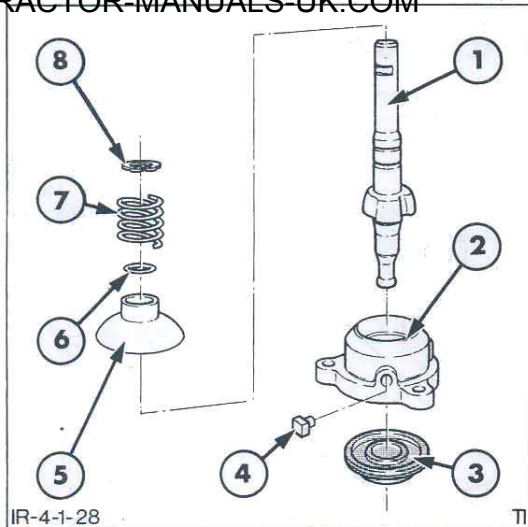

Figure 28
3. Remove the pin and rubber shield from the lever support, Figure 28.